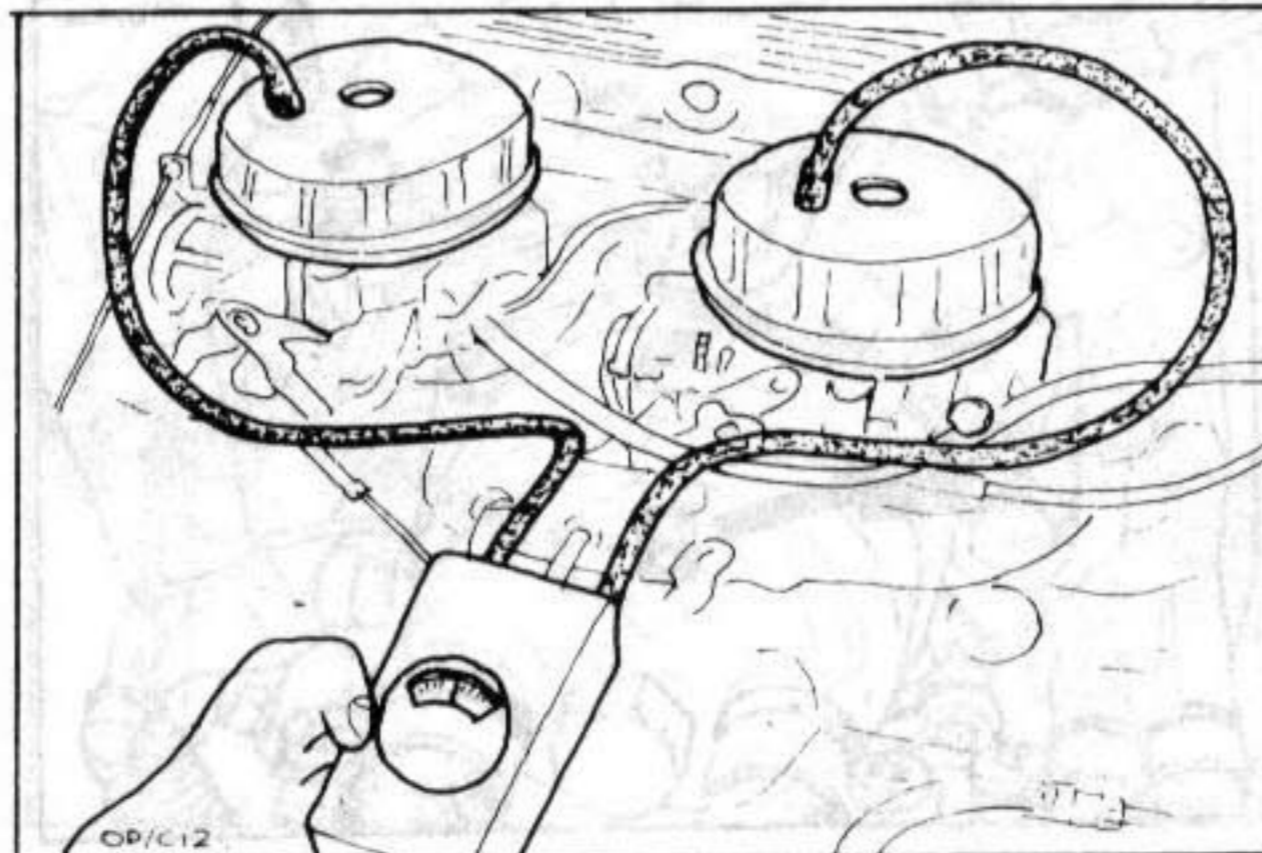

Fig. 2 Synchronising air flow
- Check carburettor synchronisation, using air flow balance meter (Fig. 2). Allow engine to idle and measure air flow through each carburettor.